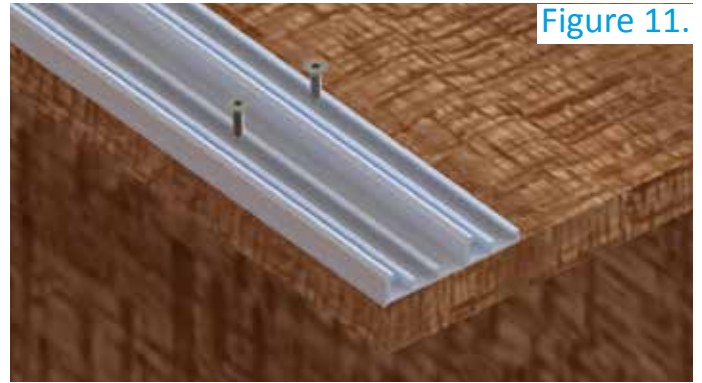

Figure 11.
2. Fix the top track **8-81**, on the top of the wardrobe unit using the screws supplied, as guided in **Figure 11**.